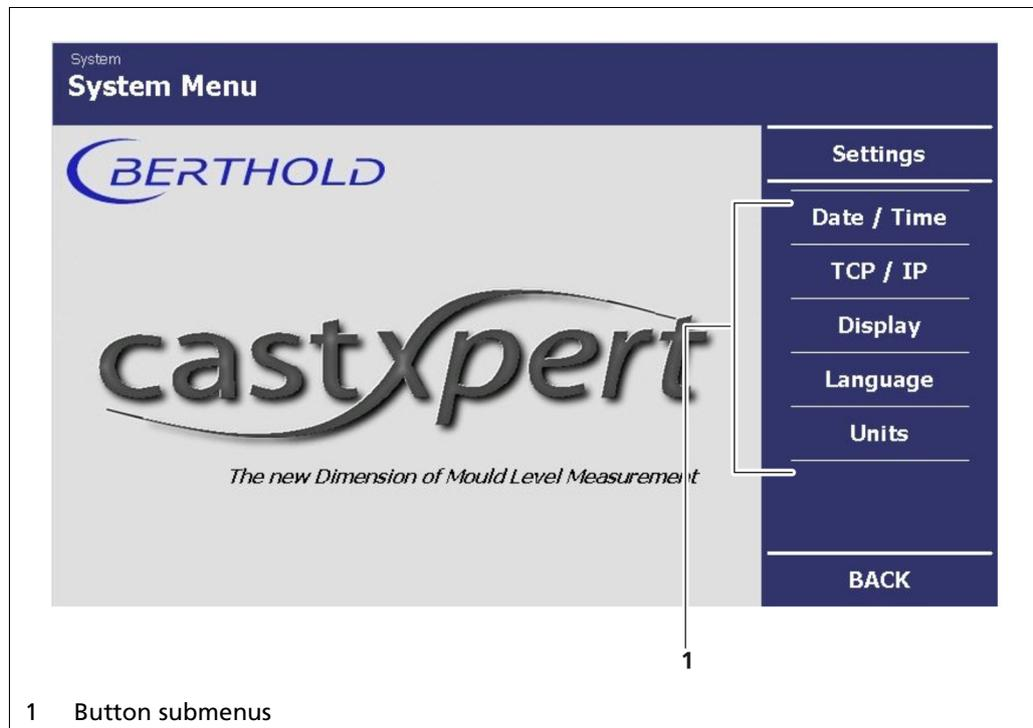

Fig. 23 System menu, Settings
- ▶ The submenu **Settings** is opened (Fig. 23).
1. In the **System Menu | Settings**, click on **<Date/Time>**, to reach the Date/Time submenu (Fig. 23, Item 1).
1. In the **System Menu | Settings** click on **<Language>**, to change the menu language. (Fig. 23, Item 1).